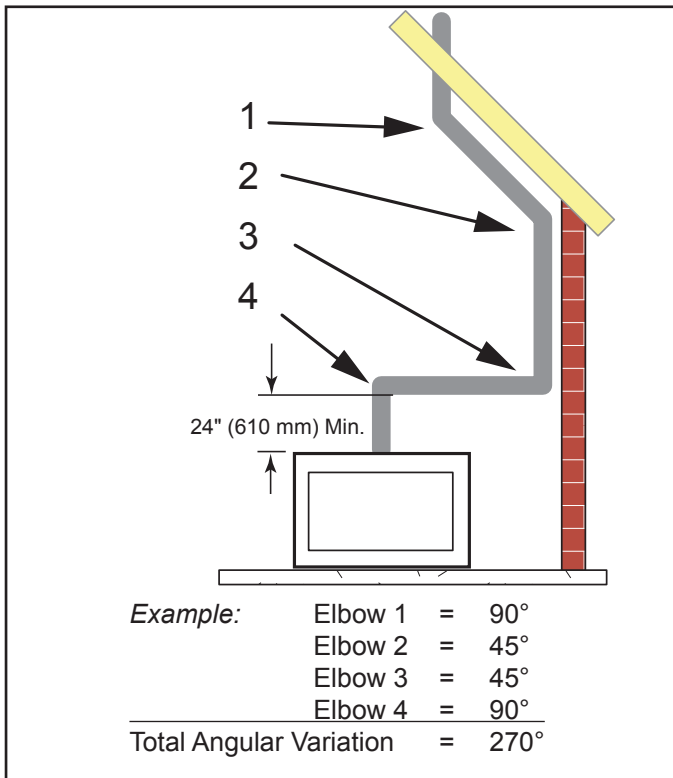

Figure 5.13 Maximum Elbow Usage
- Two sets of 45°elbows offsets may be used within the vertical sections. From 0 to a maximum of 8' (2.5 m) of vent pipe can be used between elbows. See *Figure 5.13*.
- The maximum angular variation allowed in the system is 270°. See *Figure 5.13*.